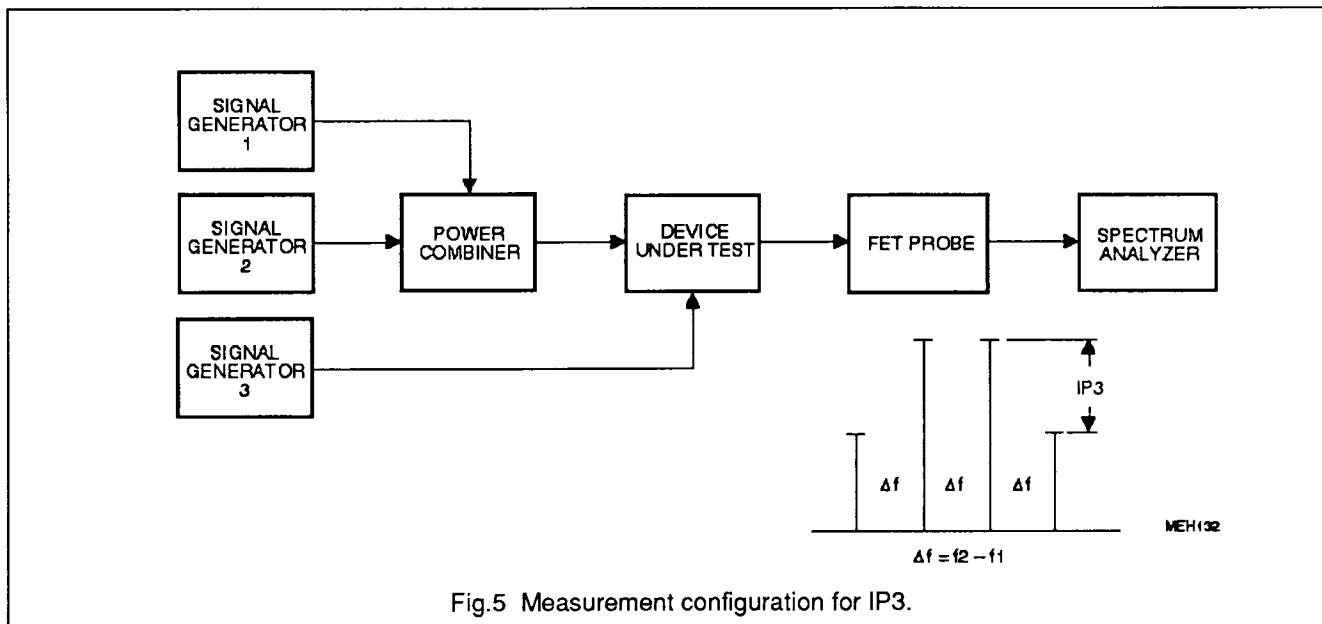

Fig.5 Measurement configuration for IP3.
**3rd order interception point IP3 (Fig.5)**